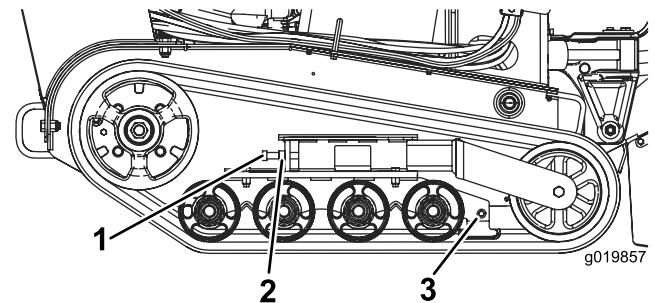

**Figure 48**
3. Loosen the jam nut on the track tensioning bolt (Figure 48).
4. Torque the tensioning bolt to 24 to 30 ft-lb (32.5 to 40 N-m) to tighten the track (Figure 48).
4. Back out the tensioning bolt and jam nut (Figure 48).